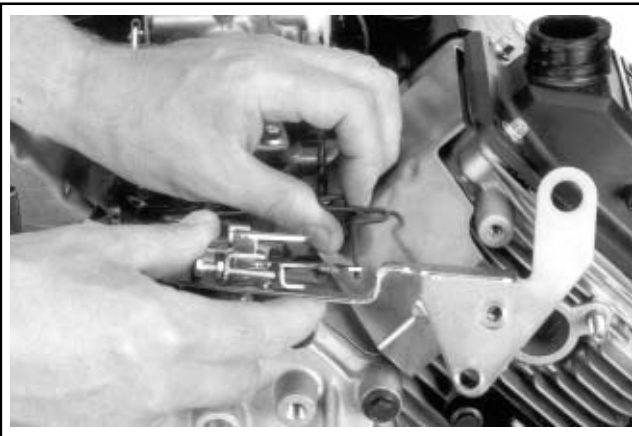

Figure 9-21. Disconnecting Choke Linkage from Actuator Lever.
3. Remove the choke linkage from the choke actuator lever and carburetor. See Figure 9-21.